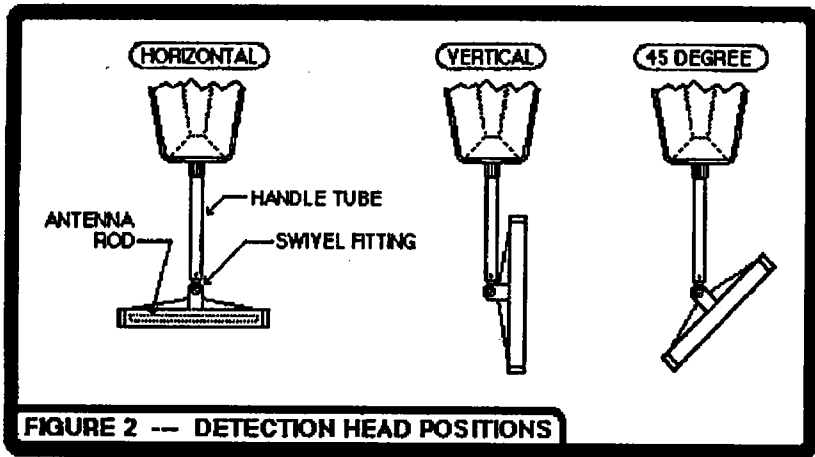

FIGURE 2 -- DETECTION HEAD POSITIONS
**DETECTION HEAD** - A sensitive, rod-type antenna, imbedded in a molded plastic housing, detects the radiated signals from the transmitter. Mounted on a swivel, the antenna can be set in any of three operating positions, as shown in Figure 2.
1. Set the detection head of the receiver to the vertical position as shown in Figure 2. Position the receiver vertically with the detection head near the ground (Figure 9). When tracing a line, a null (no signal) will occur when the detection head points at the line.
1. Set the detection head of the receiver into the horizontal position as shown in Figure 2. Position the receiver vertically with the detection head near to and parallel with the ground (Figure 10). When a peak (maximum signal) is received, the detection head points at the line, centering the receiver over the line.
2. Set the detection head to the 45 degree position as shown in Figure 2.